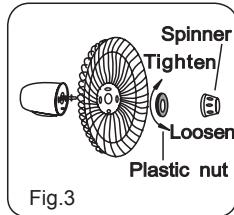

Fig.3
1. Unscrew and remove the spinner clockwise (or obtain from parts bag), and the plastic nut counterclockwise. You may have to hold the shaft in place with one hand to unscrew the spinner with the other. Position the rear guard against the motor face so that the two pins on the motor face fit through the matching holes in the rear guard. Tighten the rear guard into place with the plastic nut. (Fig.3)